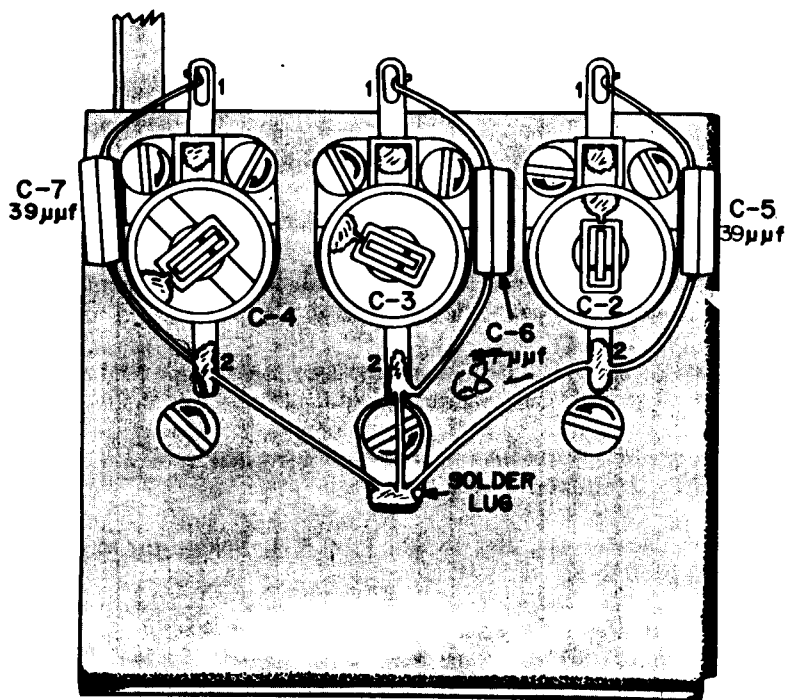
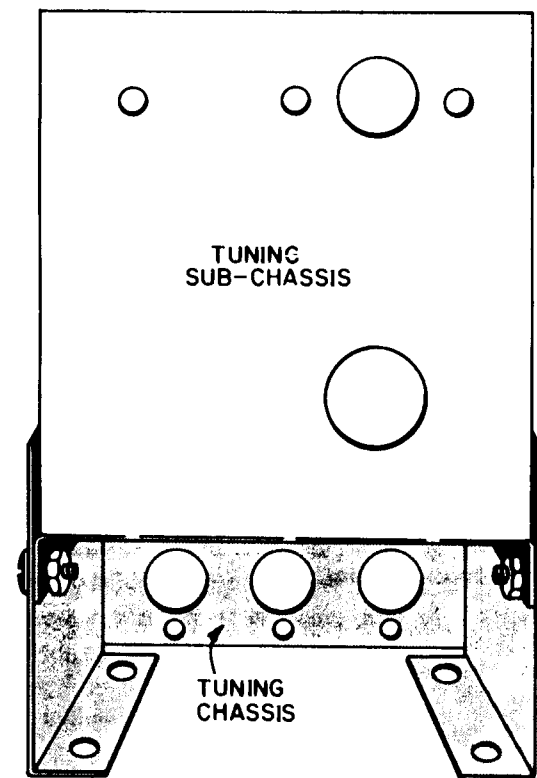

FIGURE 17. FIRST WIRING ON THE TUNING CHASSIS
FIGURE 18. TUNING CHASSIS ASSEMBLY
SEE FIGURE 17.
- Tuning chassis, tuning sub-chassis and a #6 solder lug. Assemble with six 6-32 x $\frac{1}{4}$ " screws, lockwashers and nuts as shown in Figure 18. See Figure 17 for location of the solder lug.